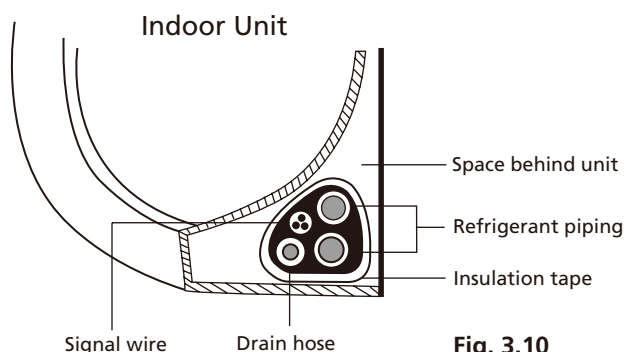

Fig. 3.10
1. Bundle the drain hose, refrigerant pipes, and signal cable according to **Fig. 3.10**.
3. Using insulation tape, wrap the signal wire, refrigerant pipes, and drain hose tightly together. Double check that all items are bundled in accordance with **Fig. 3.10**.